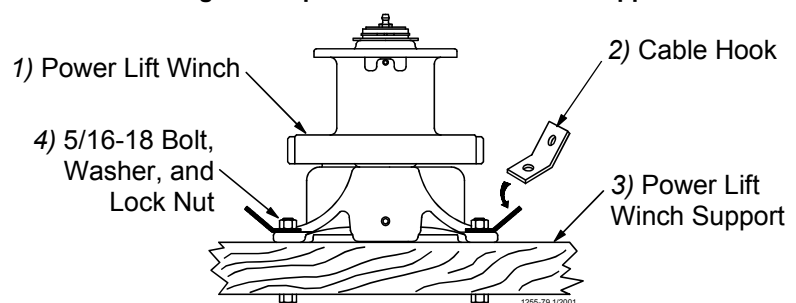

Figure 6. Assembling the Power Winch to the Rafters
- Install a Cable Hook, supplied in Hardware Package, between the mounting bolt and Power Winch frame, as shown in **Figure 6**. Assembling the Power Winch to the Rafters